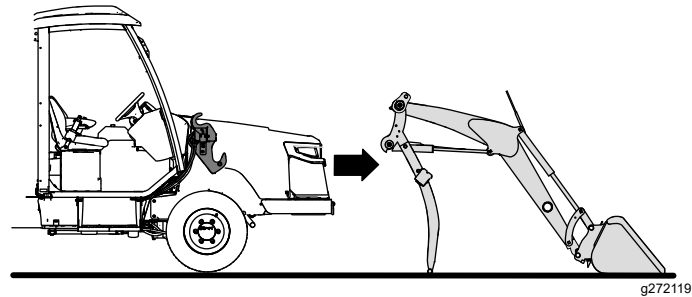

Figure 52
2. Start the engine and slowly drive the machine up to the loader arms (Figure 52).